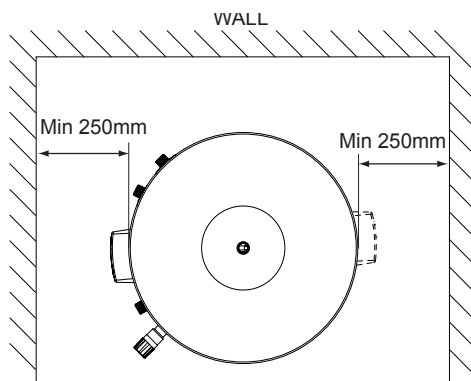

Fig. 1: Siting the Unit
- Access to associated controls and immersion heaters must be available to provide for the servicing and maintenance of the system. Where these controls are installed against a wall a minimum distance of **250mm** must be left (see Fig. 1).